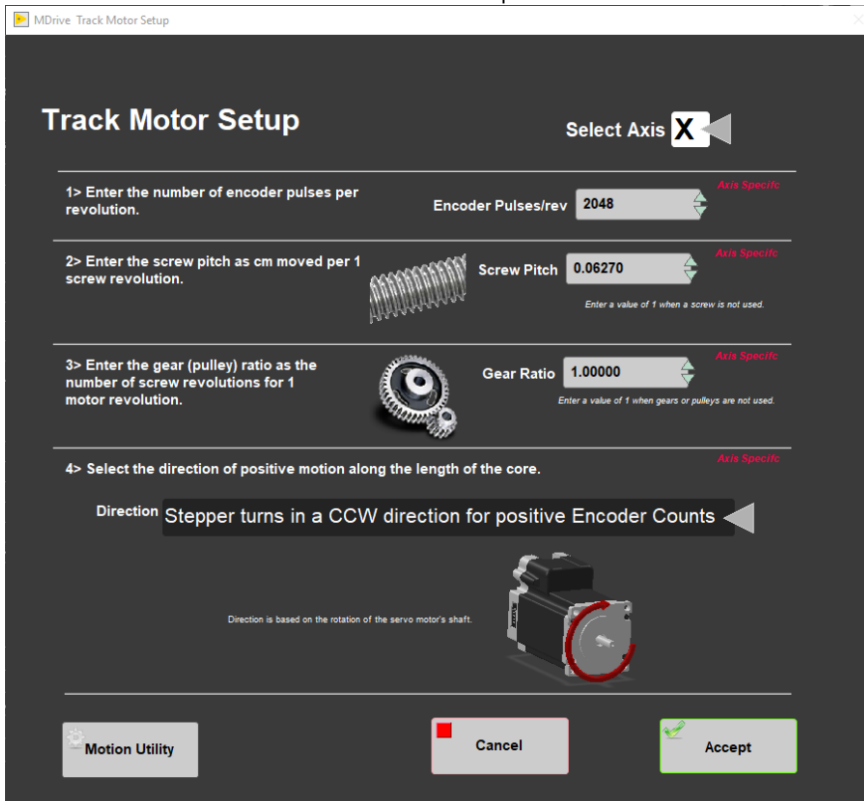

Figure 21. NGR Motor and Track Options Setup Window
- Make sure to use the values shown for the NGR (Fig. 21).